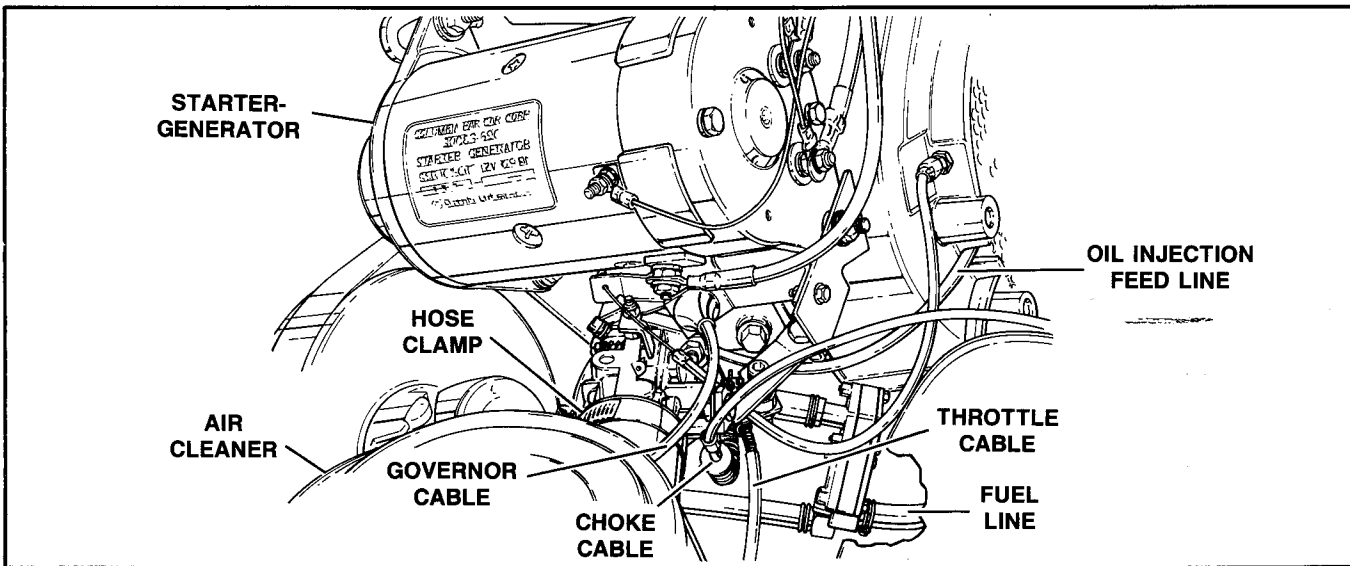

Figure 44 – Engine Removal
- c. See Figure 44. Disconnect fuel line at the fuel pump. Disconnect oil injection feed line at oil pump. Loosen the air cleaner hose clamp at the carburetor and pull hose free of carburetor. Disconnect choke and throttle cables at carburetor. Disconnect the coil wires. Disconnect governor cable, governor arm, and ground strap.
- e. See Figure 44. Install air cleaner hose to carburetor and tighten clamp. Secure the fuel line to the fuel pump. Install oil injection feed line to oil pump.
- f. See Figure 44. Connect throttle and choke to carburetor and governor cable to governor arm.
- g. See Figure 44. Install the starter-generator and cable guide. Connect coil and solenoid wires.